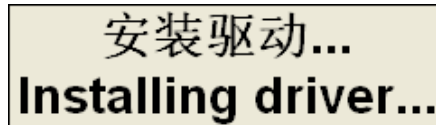

Fig. 3-12 Driver installation
- 4) After setup completed, the system installs the driver automatically. See Fig. 3-12.